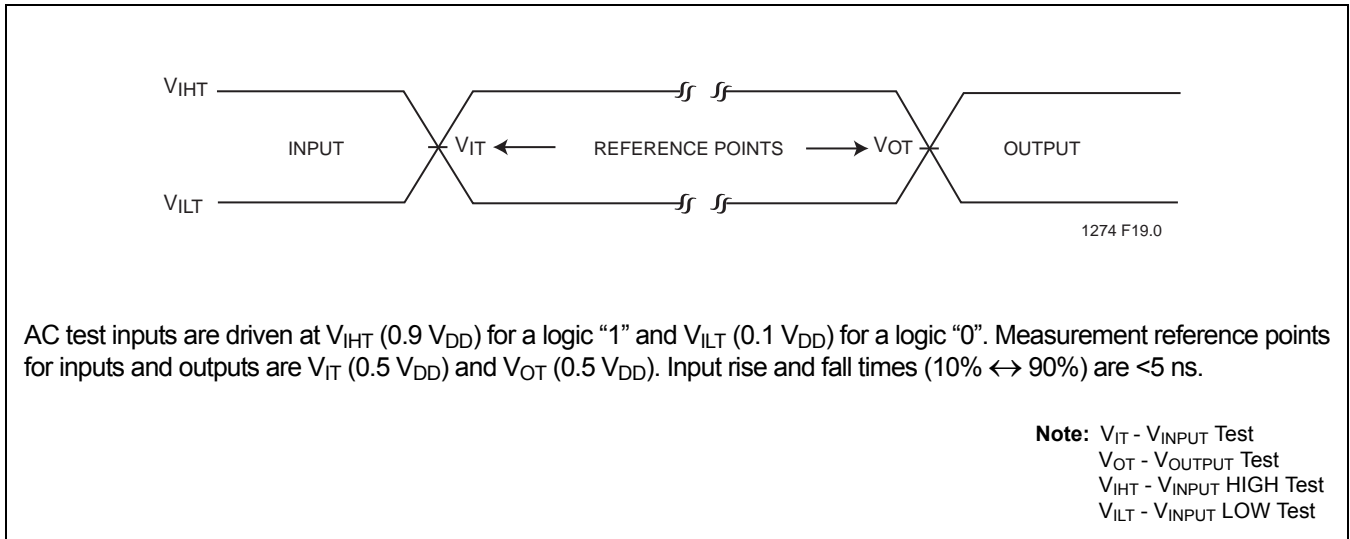

FIGURE 22: AC Input/Output Reference Waveforms
1. Address input = $V_{ILT}/V_{IHT}, V_{DD}=V_{DD} \text{ Max}$ (See Figure 22)